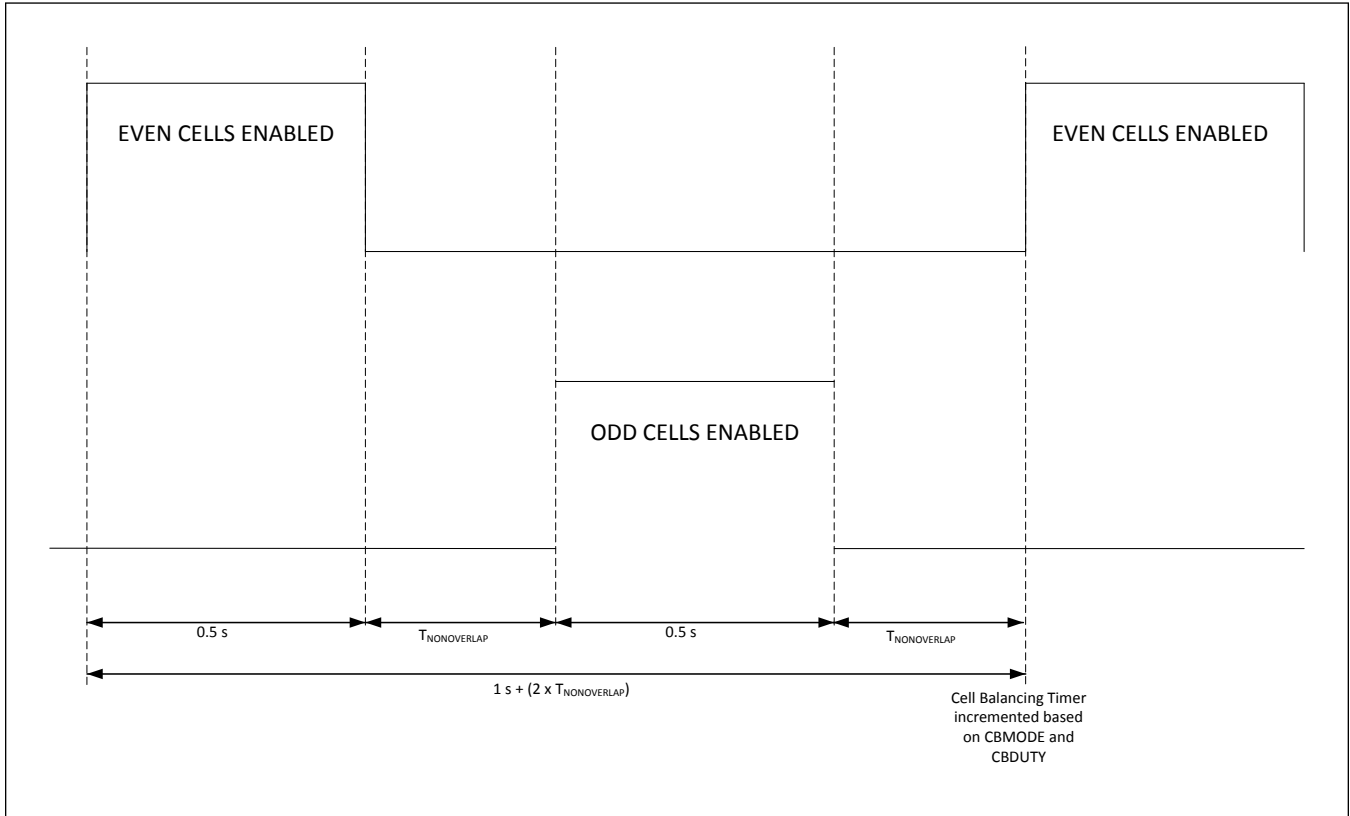
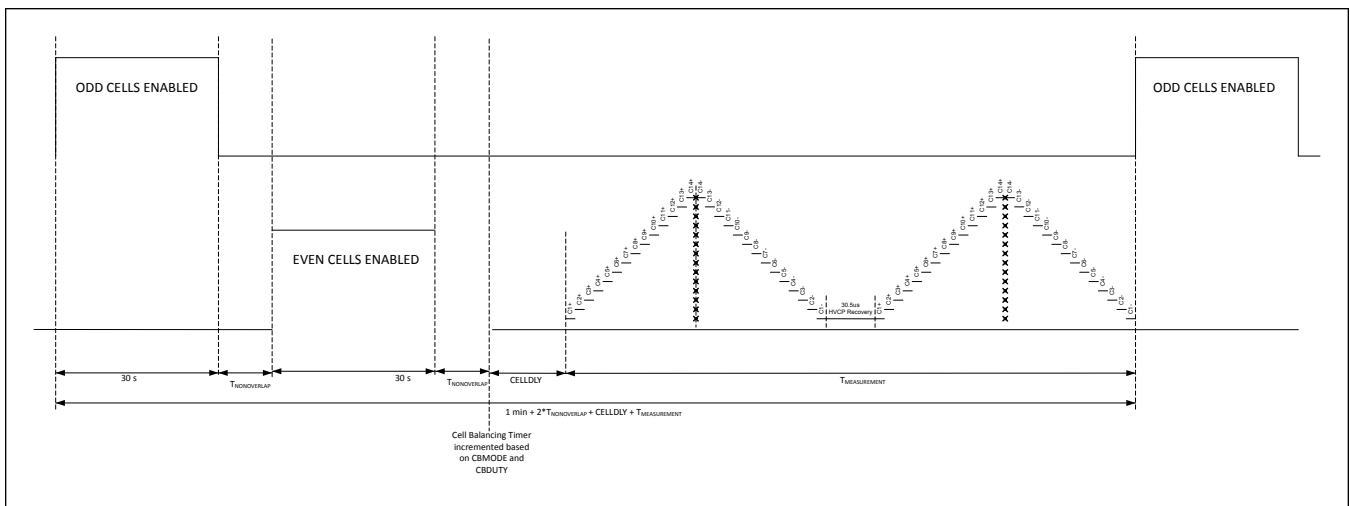

Figure 45. Auto Even and Odd Cell Balancing without UV Detection
Figure 46. Auto Even Odd Cell Balancing with UV Detection, ADC with OVSAMPL
**Note:** Figure 45 and Figure 46 are not drawn to exact timescale. Some sections have been exaggerated for visibility.